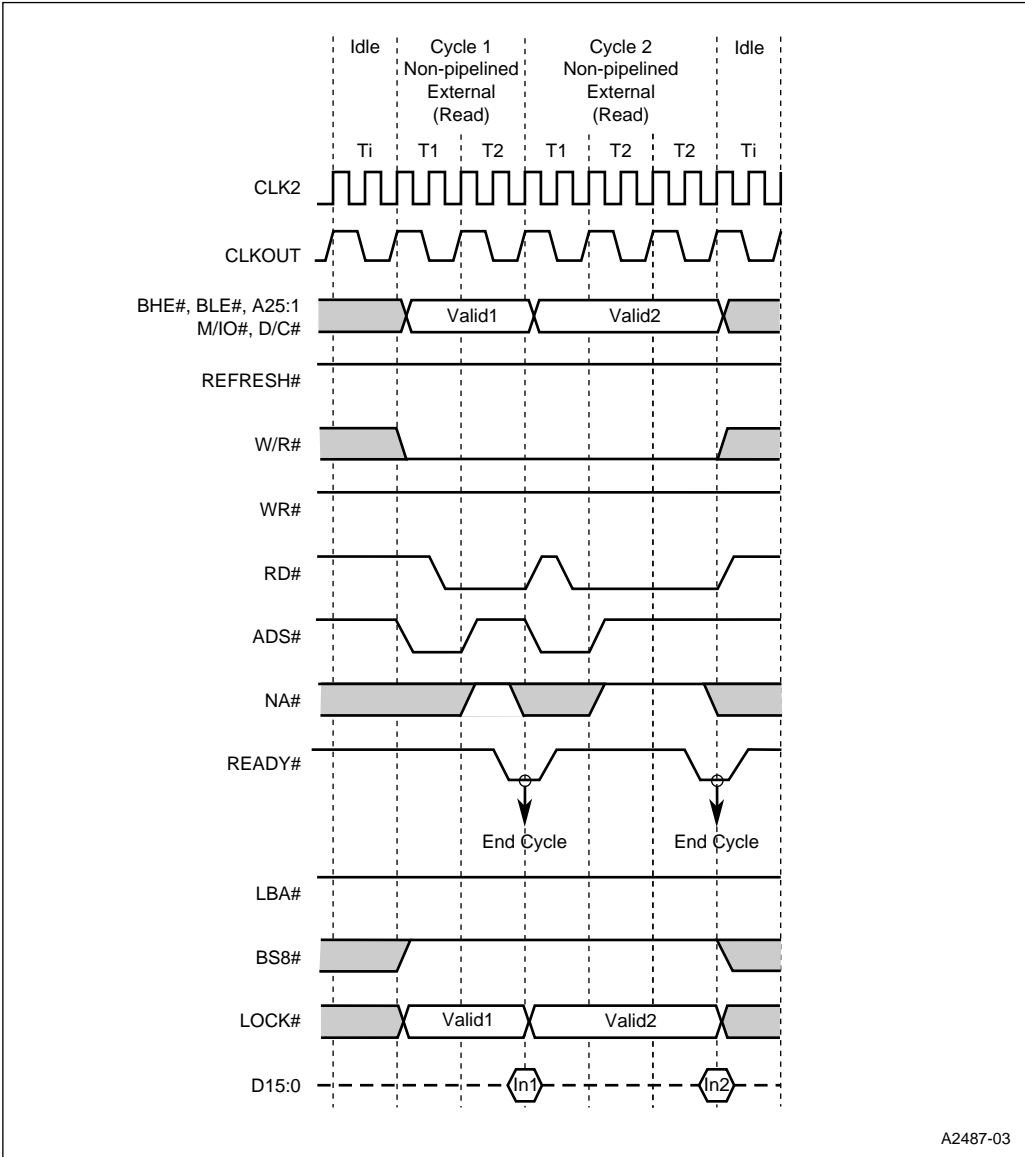

Figure 6-5. Nonpipelined Address Read Cycles
- In a **nonpipelined** cycle, the address and status signals become valid during the first T-state of the cycle (T1). Figure 6-5 shows the timing for two nonpipelined read cycles (one with and one without a wait-state).